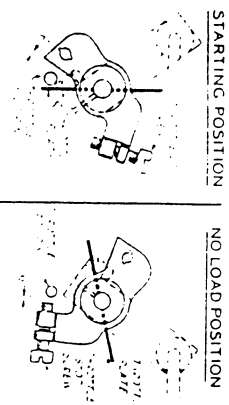

FIG. 12 - THROTTLE LEVER AND STOP PIN
1. With the plant stopped, check the clearance of the carburetor throttle stop lever. The clearance between the lever and stop pin should be approximately 1/32". Fig. 12. This clearance can be adjusted by loosening the linkage ball joint and turning the ball joint on the linkage threads as necessary to lengthen or shorten the over-all length of the linkage. Be sure that the lever to which the link connects is securely clamped on the carburetor throttle shaft.